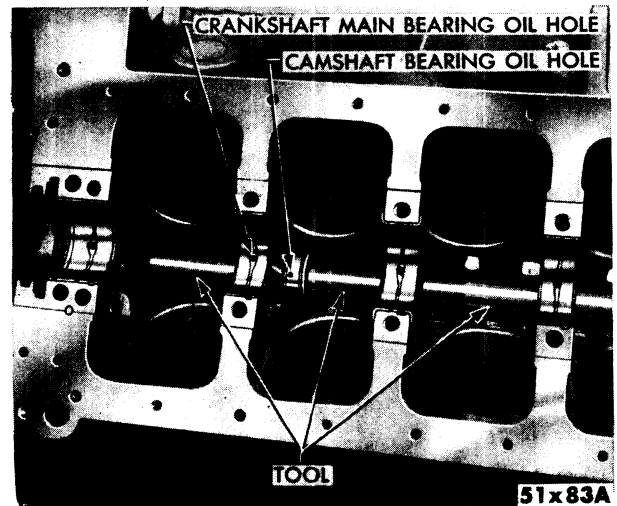

Fig. 20—Installing Camshaft Bearing Shells
- (1) Coat a new welch plug with a suitable sealer and install in the cylinder block at the rear cam bearing, using Tool C-897. Coat the main oil gallery plugs with sealer, then install in the block. Tighten securely.
- (2) Mount the cylinder block in the repair stand. Install the new camshaft bearing shells as follows: Slide new bearing shell over adaptor and insert in position, as shown in Figure 20. Install the horseshoe lock and drive in place. Install the remaining bearing shells in like manner.